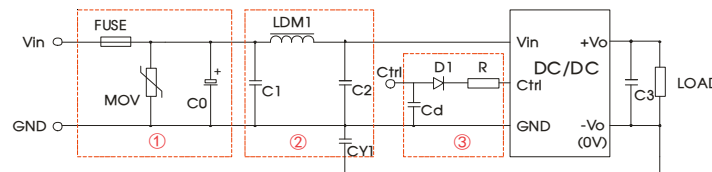

Fig. 3
- ① Part ① in Fig. 3 is used for EMS test while part ② is used for EMI filtering; and parts ① and ② may be selected based on needs.
- ② Vc is the voltage of the Ctr1 end relative to the GND of the input grounding; V_D is the positive-going conduction pressure drop of D1; I_c is the current flows into the Ctr1 end and its value is generally 5-10mA, see Fig. 3-③ for the peripheral circuit of Ctr1 end;
- ③ If there is no recommended parameters, no external component is required.